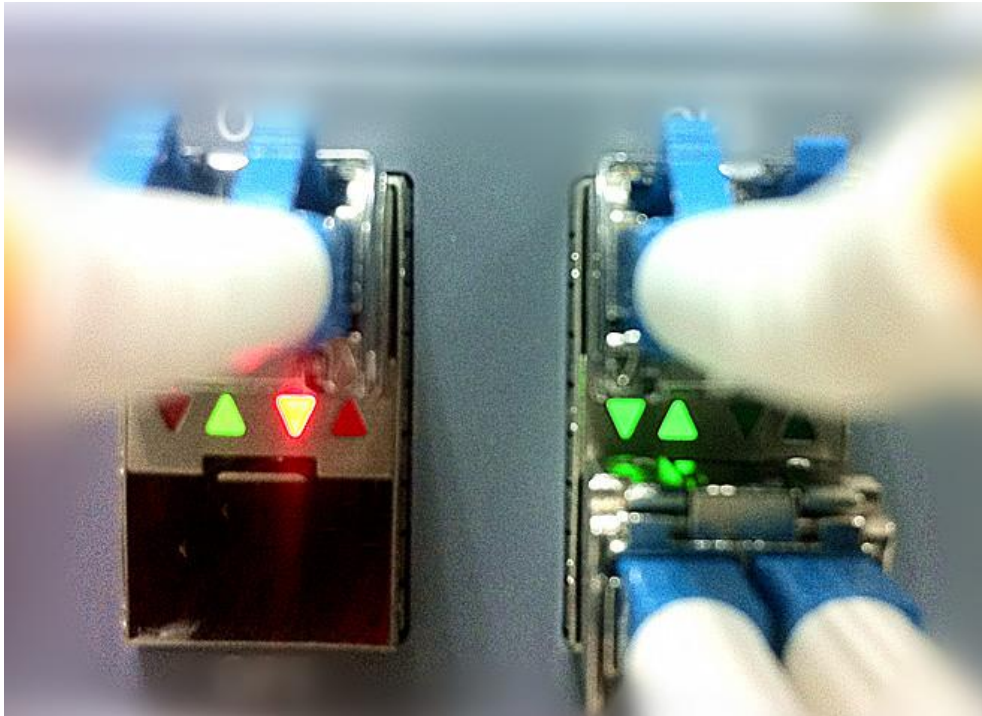

Figure 6-15 Optical SYNC Status
Figure 6-13 shows that when using a pair of single optical fibre-modules, the wavelength of the two modules should be different, for example, 1271nm & 1331nm. See Table 51 for the optical fibre module corresponding to each port. When the optical module is unplugged or not synchronized, the indicators are red as shown in the left pair of indicators in Figure 6-15. Check whether both indicators turn green after connecting one pair of optical modules. If they are red, the terminal has not synchronized. See Section 9 for how to resolve this issue.
Each pair (2) of optical module cages has four LED indicator arrows. The two on the left are green and the two on the right are red as shown in Figure 6-15. The indicator arrows represent the synchronization status of the upper and lower optical modules. When optical module A has synchronized with module B (both uplink and downlink), the indicators turn green as shown in the right pair of indicators in Figure 6-15. When the optical module is unplugged or not synchronized, the indicators are red as shown in the left pair of indicators in Figure 6-15. Check whether both indicators turn green after connecting one pair of optical modules. If they are red, the terminal has not synchronized.